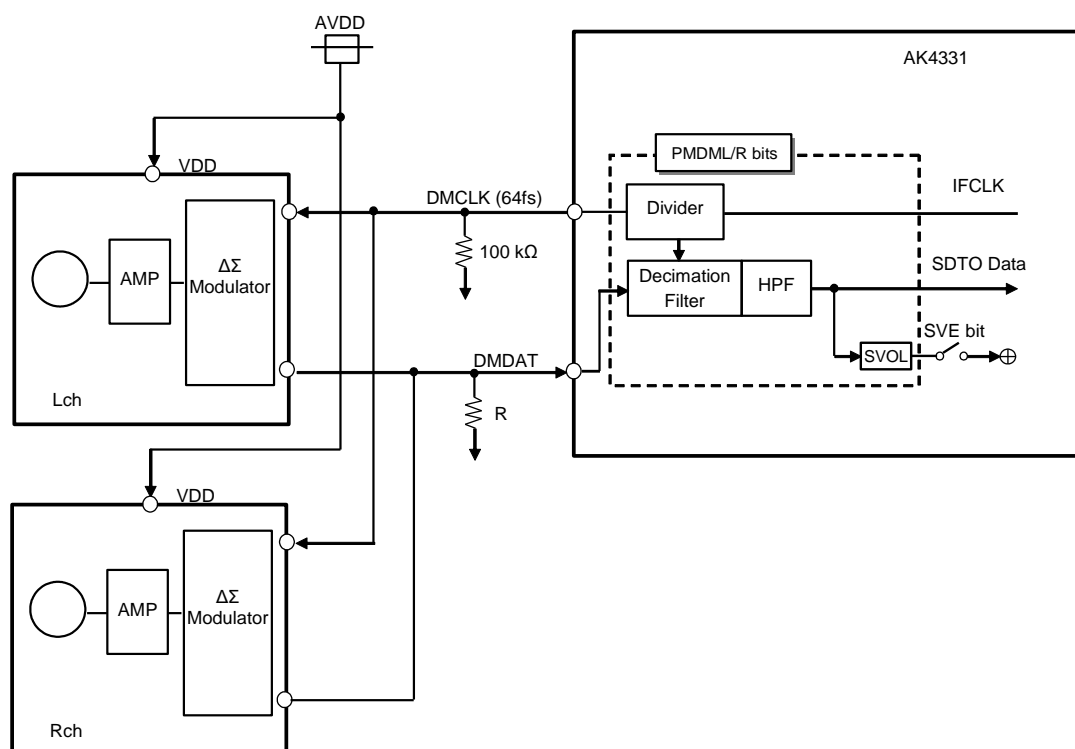
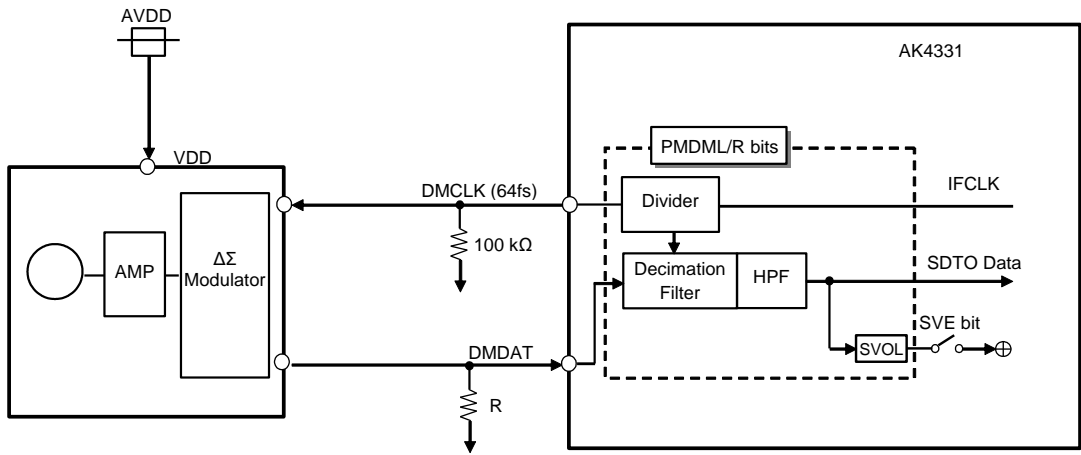

Figure 19. Connection Example of Stereo Digital Microphone
Figure 20. Connection Example of Mono Digital Microphone
The same power supply as AVDD must be provided to the digital microphone. The Figure 19 and Figure 20 show mono/stereo connection examples. The AK4331 provides DMCLK to a digital microphone by converting IFCLK to 64fs with a built-in decimation filter. Accordingly, the digital microphone generates 1-bit data by $\Delta\Sigma$ Modulators and transmits to the DMDAT pin of the AK4331. PMDML/R bits control power-up/down of the digital block (Decimation Filter and HPF). The DCLKE bit controls ON/OFF of the output clock from the DMCLK pin. When the AK4331 is powered up (PDN pin = "H"), external pull-down resistor (R) should be connected to the DMDAT pin to avoid floating state.